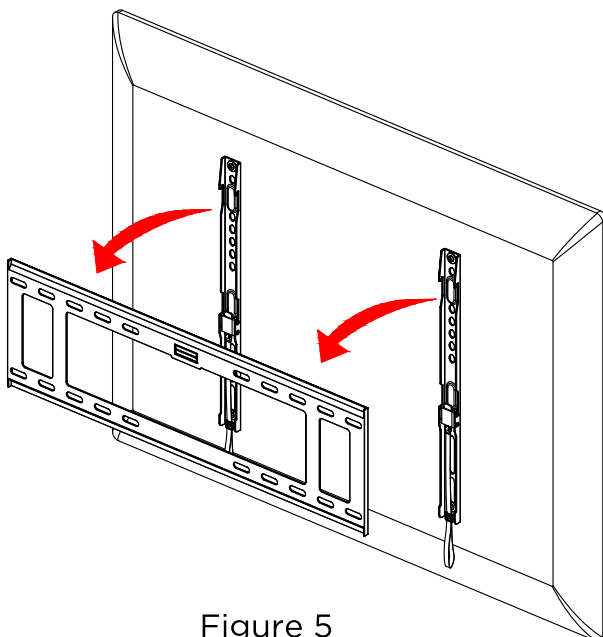

Figure 5
Step 3: Hang the pre-assembled TV unit on the wall plate and then tighten the safety screws. (Figure 5)